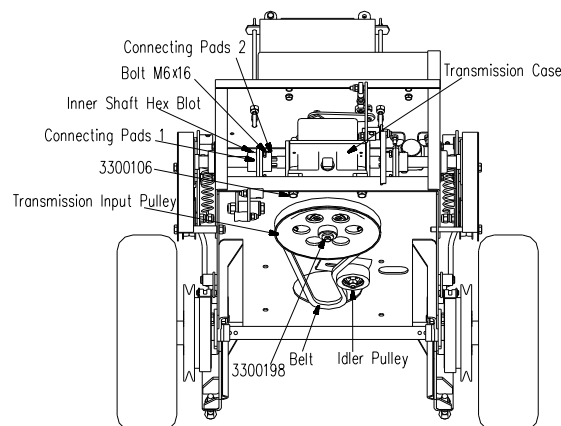

FIG 13
- Finally, tighten left and right connecting pad M6x16 bolts and inner shaft hex bolts. (See FIG 13)